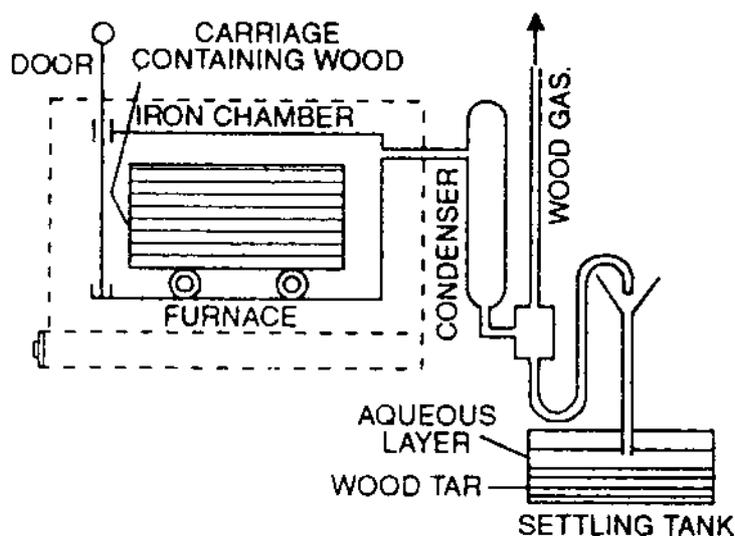

Fig. 21.1 Destructive distillation of wood.
- (ii) **Pyroligneous acid :** The aqueous distillate which is collected over wood tar (as shown in figure 21.1) is called pyroligneous acid. In addition to water, it contains,